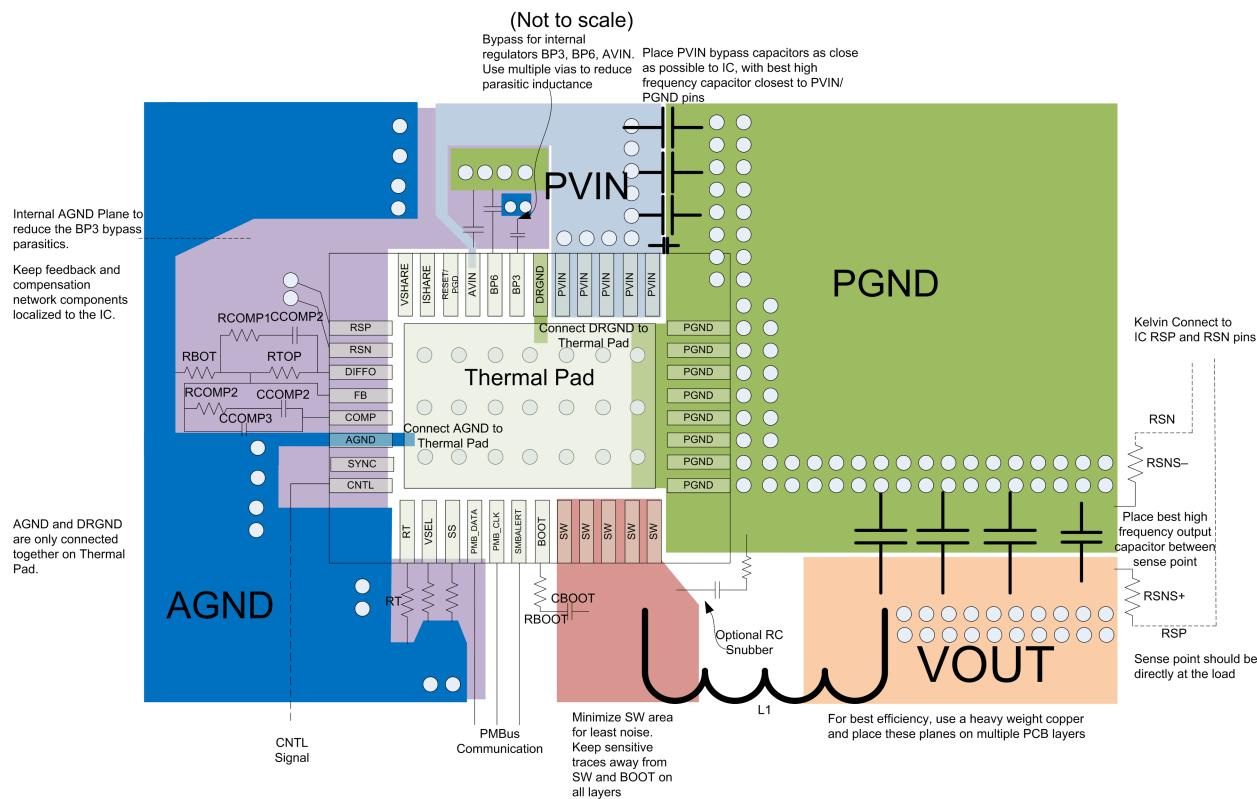

图 52. PCB Layout Recommendation
Layout is critical for good power-supply design. 图 52 shows the recommended PCB-layout configuration. A list of PCB layout considerations using these devices is listed as follows:
- Keep signal components local to the device, and place them as close as possible to the pins to which they are connected. These components include the feedback resistors and the RT resistor. These components should also be kept away from fast switching voltage and current paths. Those components can be terminated to AGND with a minimum return loop or bypassed to the copper area of a separate low-impedance analog ground (AGND) that is isolated from fast switching voltages and current paths and has single connection to PGND on the thermal pad through the AGND pin. For placement recommendations, see 图 52.
- The PVIN and AVIN pins must be the same potential for accurate short circuit protection, but high-frequency switching noise on the AVIN pin can degrade performance. The AVIN pin should be connected to PVIN through a trace from the input copper area. Optionally form a small low-pass R-C between the PVIN and AVIN pins, with the AVIN bypass capacitor (1 μ F) and a 0-2 Ω resistor between the PVIN and AVIN pins. See 图 52 for placement recommendations.